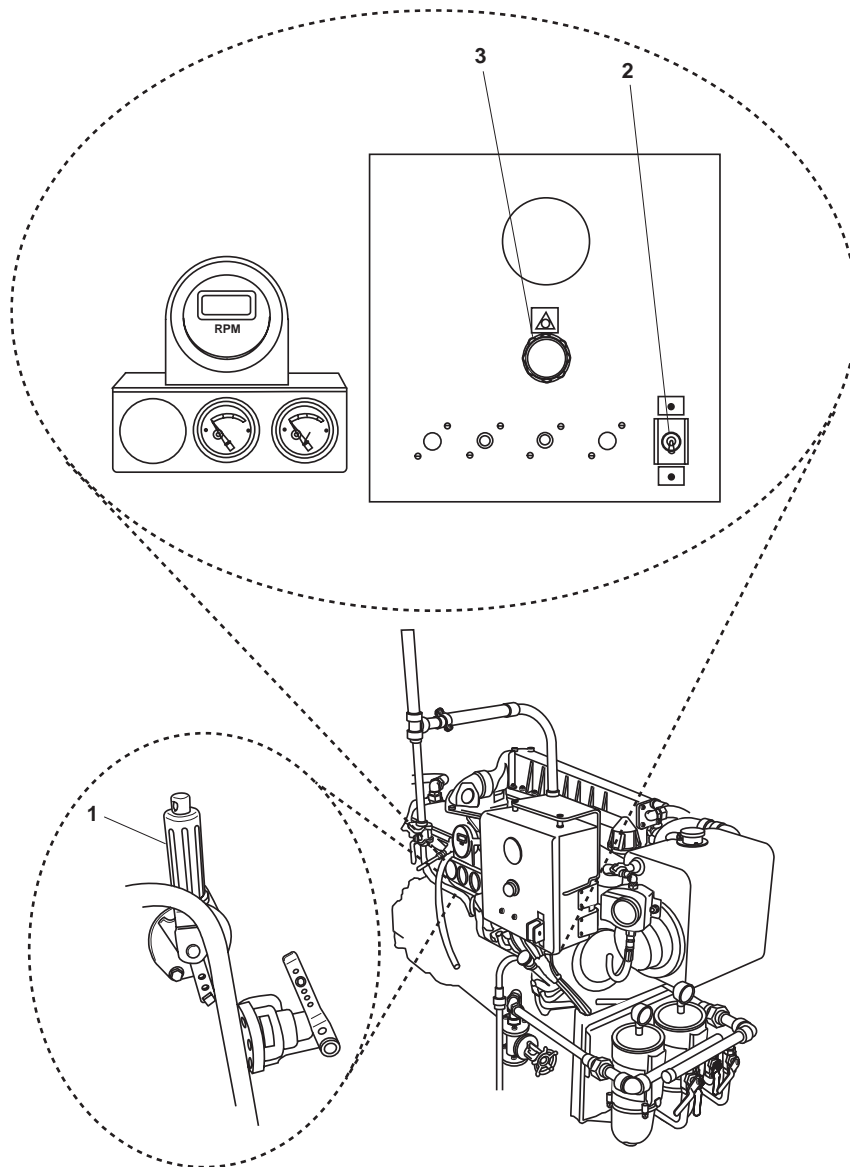

Figure 2. Bow Thruster Engine Controls
- a. Place the governor control lever (figure 2, item 1) in the IDLE position (local control and locked).
- c. Set the START-STOP switch (figure 2, item 2) to the OFF position, or push the governor control lever (figure 2, item 1) in the aft direction until the engine stops.
- d. Push in the EMERGENCY STOP pushbutton (figure 2, item 3).